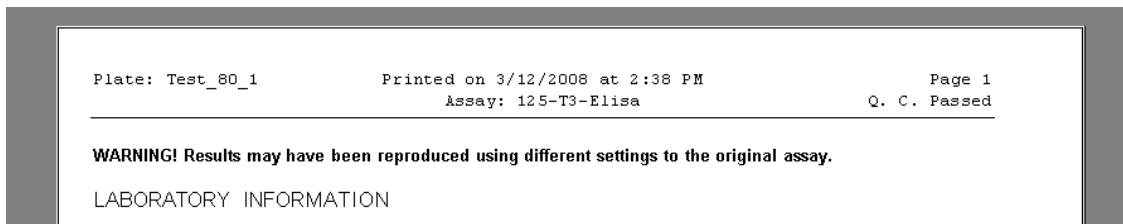

Figure 6-19: Warning on Report
- Click **OK**. The data will be reanalyzed and displayed with the following warning (Figure 6-19):